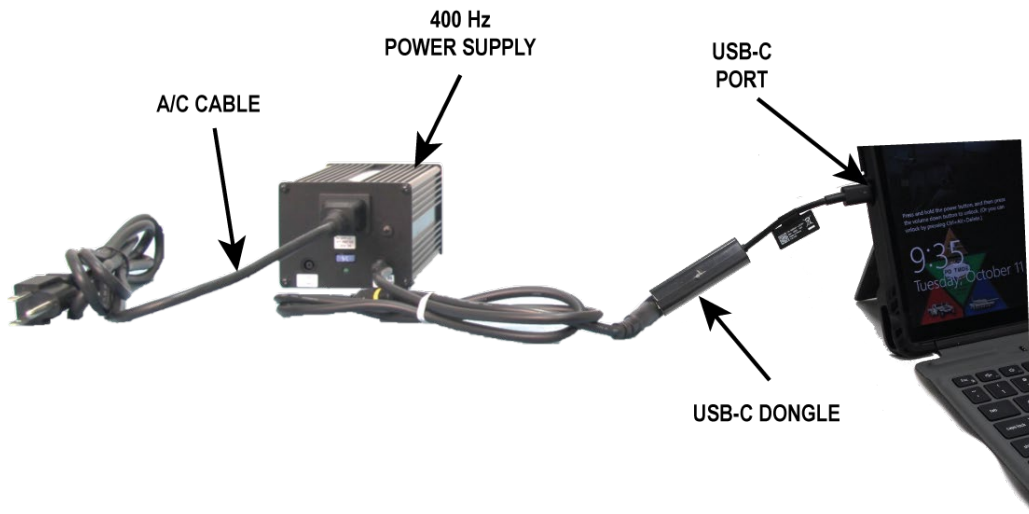

Figure 41. 400Hz Power Adapter Hookup.
2. Plug the connector of the DC output cable into the barrel connector of the barrel to USB-C adapter (see Figure 41).